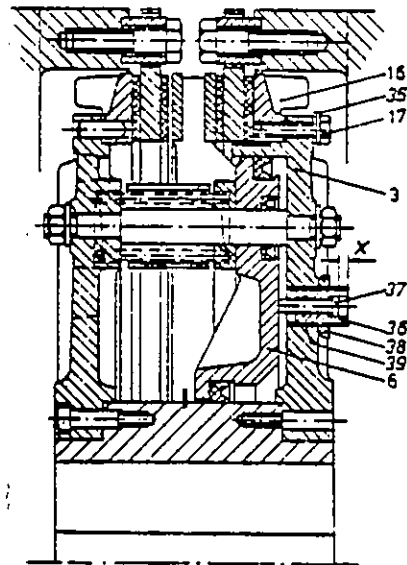

Fig. 3
To overcome this problem, wear compensating shims are fitted in conjunction with a wear indicator (see fig. 3). The wear indicator is set at zero wear before the unit leaves the factory. As the linings reach max. wear condition the indicator pin (37) will lie flush with the outside edge of the threaded ring (36). The brake must then be released, and the screws (17) unscrewed. The shims (35) can then be removed and re-inserted between support plate (16) and cylinder (3).